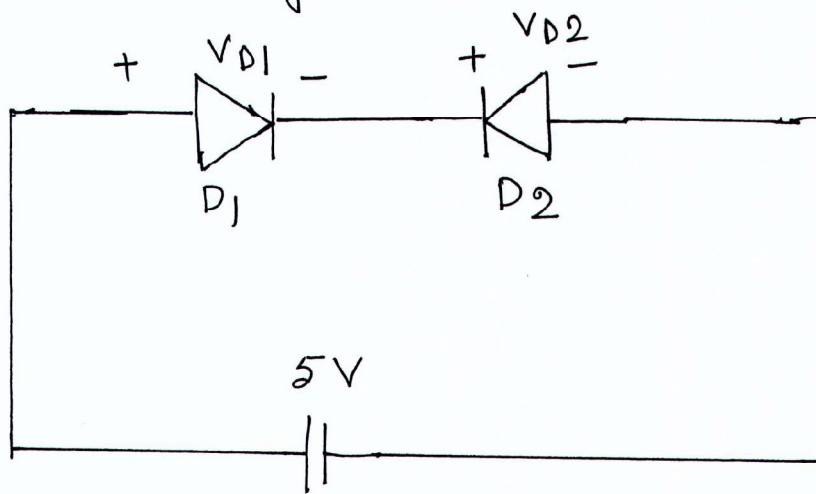

Figure 2
- Find the voltage drops across each of the Si junction diodes as shown in figure 2, at room temperature. Assume that reverse saturation current flows in the circuit and magnitude of the reverse breakdown voltage is greater than 5 volts. **[4 M]**